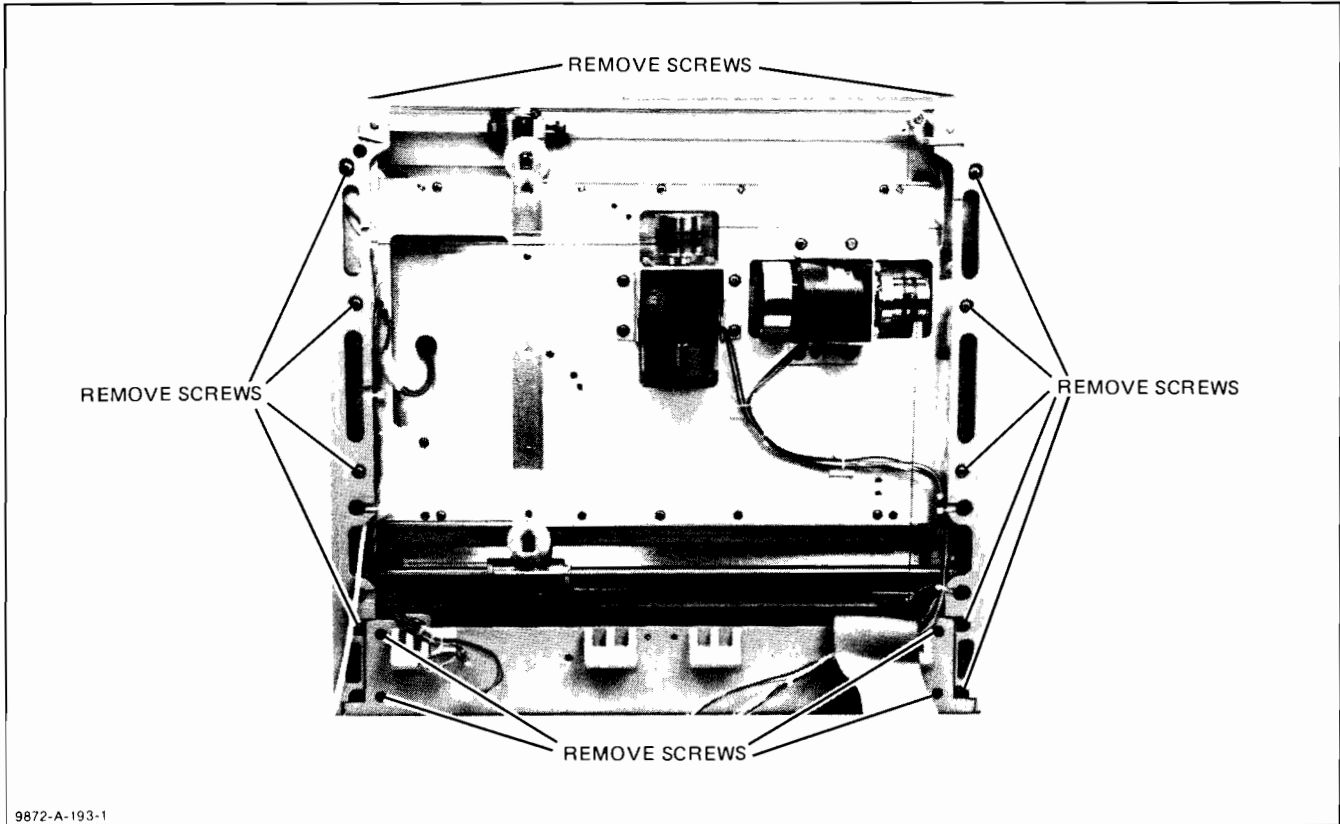

Figure 6-40. Side Panel Removal
- c. Remove the side panel retaining screws, the hinge screws, and the two front panel retaining screws from the side to be removed. See Figure 6-40.